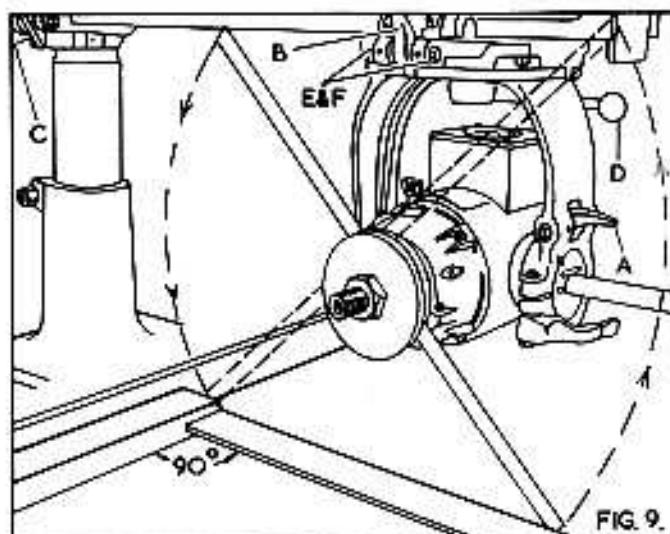
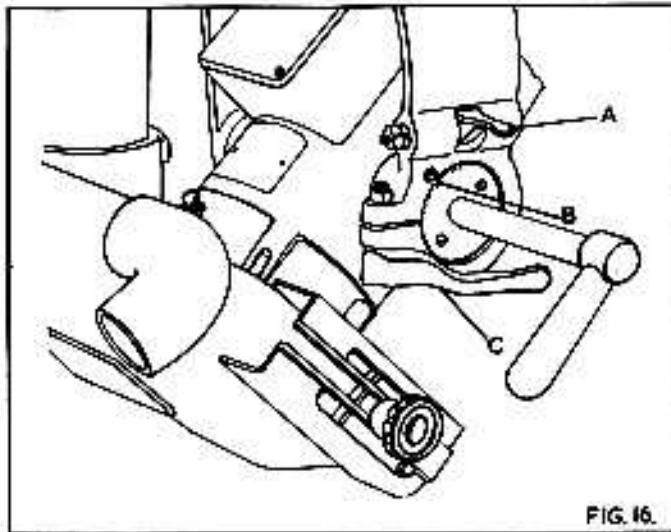

FIG. 9.
FIG. 16.
2. Ensure the motor locating latch "A" in Fig. 9, the stirrup locating latch "B" and the carriage locking screw "C" in Fig. 16 is securely locked.
4. Lift arm locating latch "C" in Fig. 9 and swing arm to extreme ends of the table checking that clearance between rod and table remains constant.
To check this alignment place a steel rule or some other similar straight edge between the saw flanges as shown in Fig. 9 and a steel square against the fence. Rotate the steel rule from front to rear, if adjustment is necessary loosen stirrup locking handle "D", and disengage the stirrup locating latch "B", set correctly, then relock in position with lever "D". Adjust the aerotight nuts "E" and hexagon locknuts "F" until the latch "R" locates accurately in the slot in the stirrup.
The motor swivels within the stirrup through 90°. The principle angles are located by a tapered latch "A" in Fig. 16.